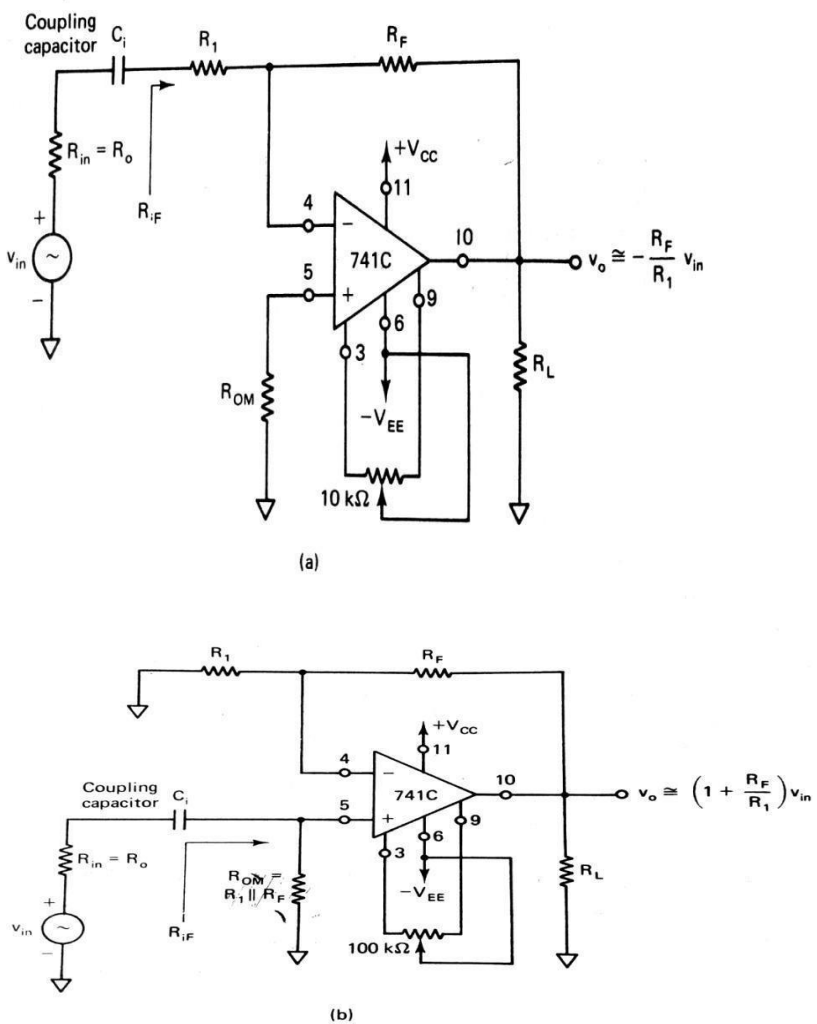

Figure 7-3 (a) AC inverting amplifier. (b) AC noninverting amplifier. (Pin numbers are for the 14-pin DIP.)
- The figure 7-3 shows the AC inverting and non-inverting amplifiers with coupling capacitors.
Example : in the circuit of Fig 7.3(a) $R_{in}=50\Omega$, $C_i= 0.1 \mu\text{F}$, $R_1=100 \Omega$, $R_f= 1 \text{K}\Omega$, $R_L=10\text{K}\Omega$ and supply voltages = + or – 15 V. Determine the bandwidth of the amplifier